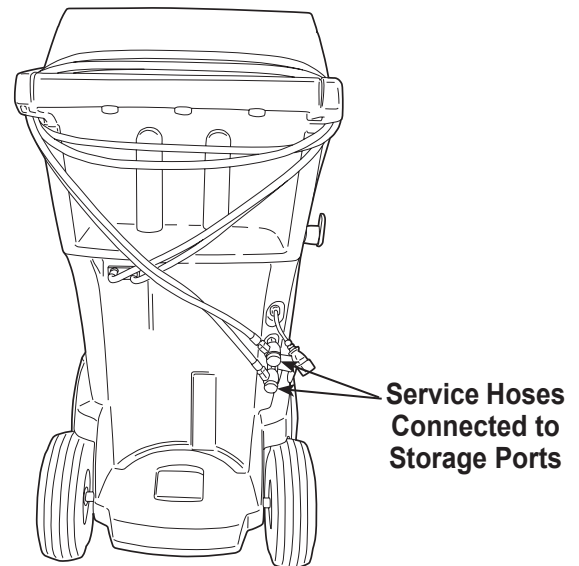

Figure 1
1. When prompted, connect the service hoses from the machine to their storage ports and open the service couplers, as shown in Figure 1.